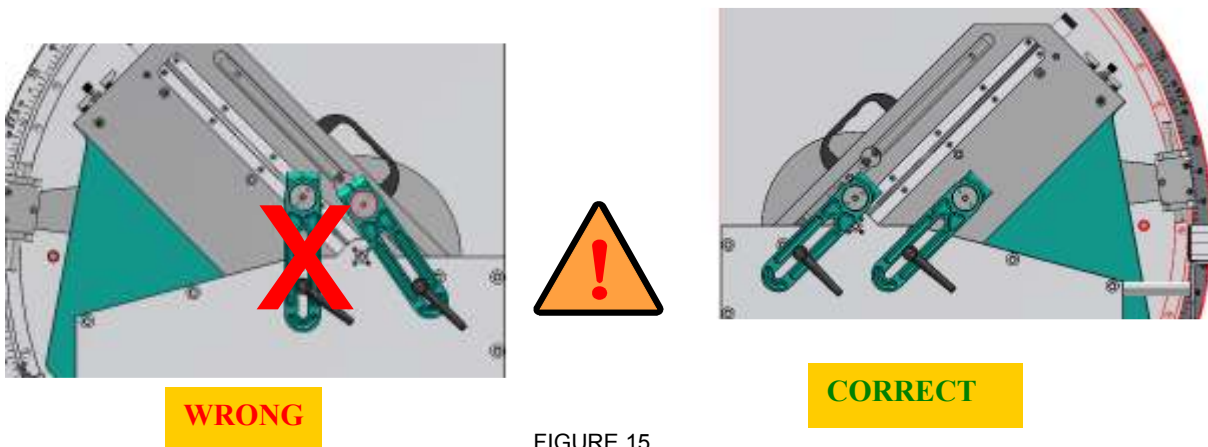

FIGURE 15
**NOTE: ENSURE THAT THE PNEUMATIC CLAMPS ARE OUTSIDE THE CUTTING RANGE OF THE SAW BLADE AFTER ADJUSTING THE DESIRED ANGLE. See Figure 15**